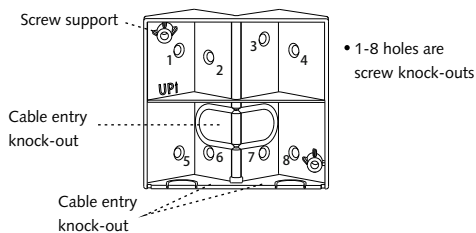
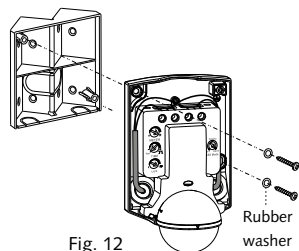

Fig. 10
Fig. 12
- 8-knock-out wall bracket is designed for various application (See Fig. 10), break the knock-out to feed the wires through the corresponding hole.
- Break screw knock-outs (See Fig. 10), then fix the wall bracket onto recess / corner with wood screws (See Fig. 11-A & Fig. 11-B), make sure "UP" mark upwards. refer to wall mount 1-3 to connect power cables, and fix the (See Fig. 12), then assembly front cover.